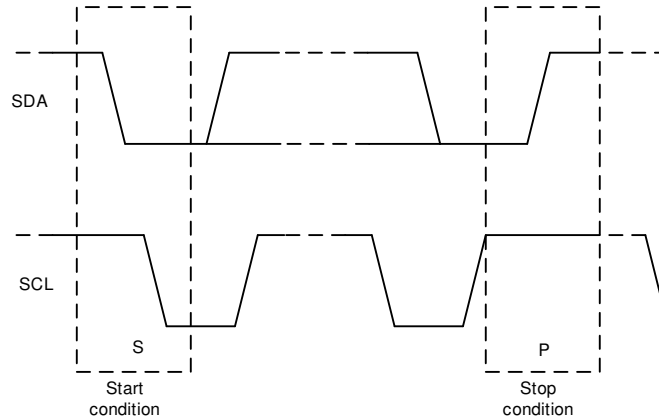

Figure 8-5. Start and Stop Conditions
1. The controller initiates data transfer by generating a start condition. The start condition is when a high to-low transition occurs on the SDA line while SCL is high, as shown in Figure 8-5. All I²C-compatible devices recognize a start condition.
4. To signal the end of the data transfer, the controller generates a stop condition by pulling the SDA line from low to high while the SCL line is high (see Figure 8-5). This action releases the bus and stops the communication link with the addressed target. All I²C-compatible devices recognize the stop condition. Upon receipt of a stop condition, the bus is released, and all target devices then wait for a start condition followed by a matching address.